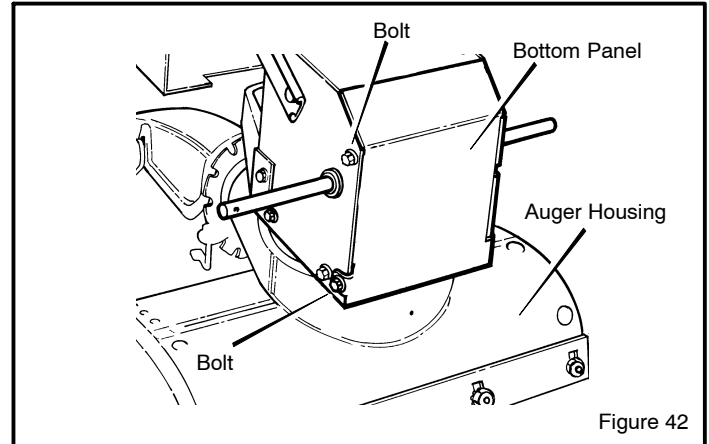

Figure 42
1. Remove the gas from the gas tank. Stand the snow thrower up on the front end of the **auger housing** (see Figure 42).
3. Loosen the **bolts** on each side of the **bottom panel** (see Figure 42).
6. Install the **bottom panel** (see Figure 42).
1. Remove the gas from the gas tank. Stand the snow thrower up on the front end of the **auger housing (4)**. (see Figure 42).